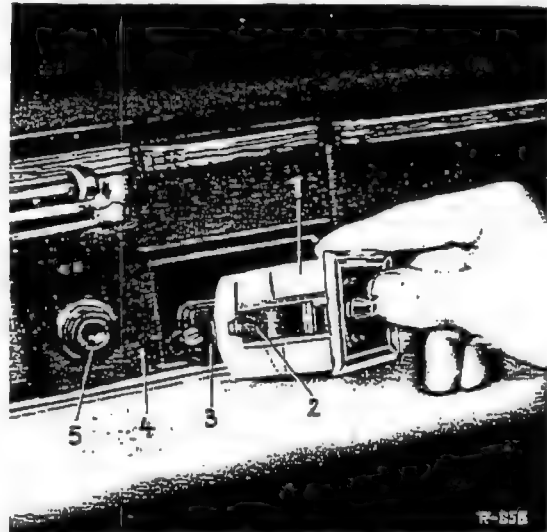

Fig. 54-12/1
2. From behind the instrument panel compress the two tensioning springs (2) of the electric clock mounting and remove the clock (1) toward the front (Fig. 54-12/1).
3. Pull the plug (3) out of the clock (Fig. 54-12/1).